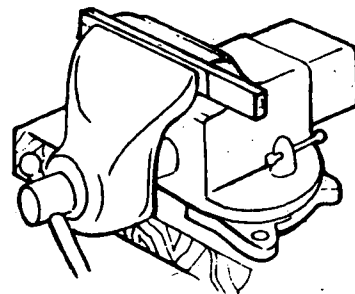

Fig. 3
1. Hold the stock so that the part to be cut is towards the right of the operator and close to the jaws (Fig. 3).